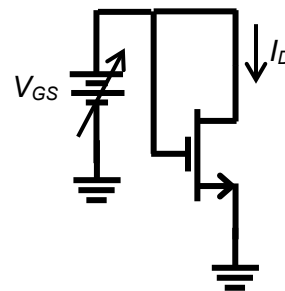

Figure B3. Diode connected circuit of figure B2.
- 2. Connect the transistor in a diode connected configuration as shown in Figure B2, and its equivalent circuit shown in Figure B3 in the appendix of this handout.